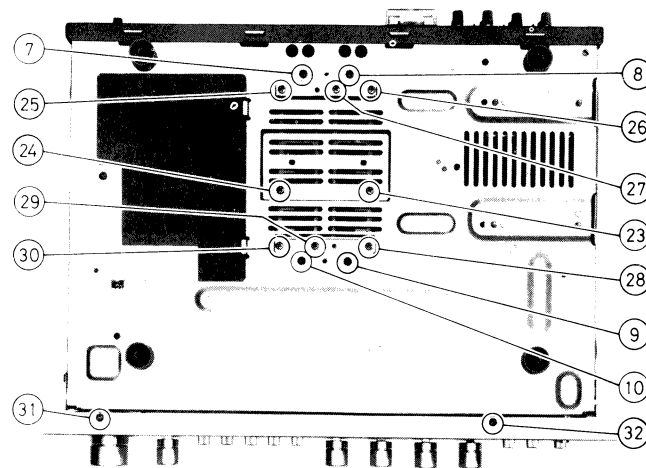
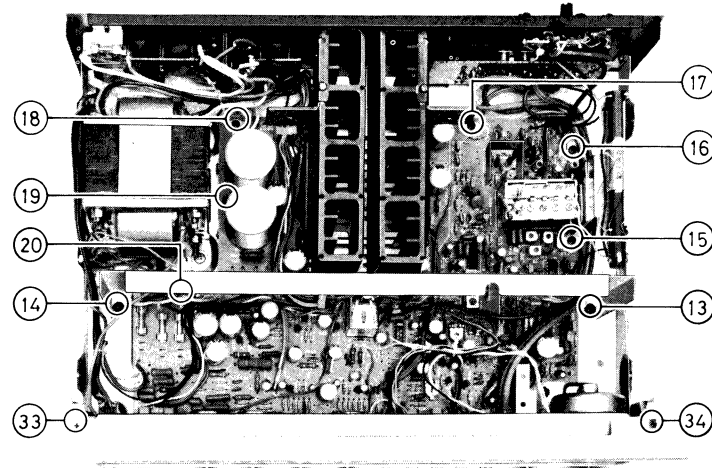

Fig. 4
Fig. 5
2. Remove four (4) heat sink-mounting screws, nos. ⑦~⑩ as shown in fig. 4.
4. Remove two (2) dial light reflection board-mounting screws, nos. ⑬ and ⑭ as shown in fig. 5.
5. Remove six (6) printed circuit board-mounting screws, nos. ⑮~⑳ as shown in fig. 5.
2. Remove two (2) IC cover-mounting screws of bottom board, nos. ㉓ and ㉔ as shown in fig. 4.
5. Remove ten (10) heat sink-mounting screws, nos. ㉕~㉗ as shown in fig. 4.
3. Remove four (4) front panel-mounting screws, nos. ㉓~㉖ as shown in fig. 4 and fig. 5.